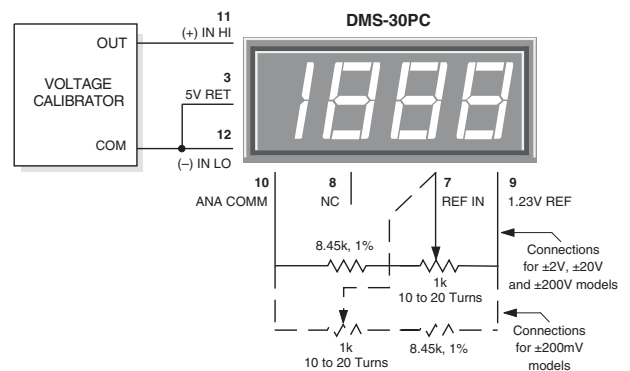

Figure 10. External Gain Adjustment
6. Gain Adjust: There is a gain-adjust potentiometer on the back of each meter. It has approximately ± 50 counts ($\pm 2.5\%$) of adjustment range. Since these devices essentially have no zero/offset errors, a gain adjustment is effectively an overall accuracy adjustment. Though they may be performed at any point (except zero), accuracy adjustments are most effective when performed with higher level input signals. The circuit shown in Figure 10 provides $\pm 10\%$ range of adjustment.
- 8. External Gain Adjustment:** Connect REFERENCE OUT (pin 8) to REFERENCE IN (pin 7) for normal, factory calibrated, operation. Use the +1.23V REFERENCE OUT (pin 9) for applications needing external gain adjustment. Figure 10 shows the wiring configuration for each model. Calibration is performed with a precise, near-full-scale, input voltage.